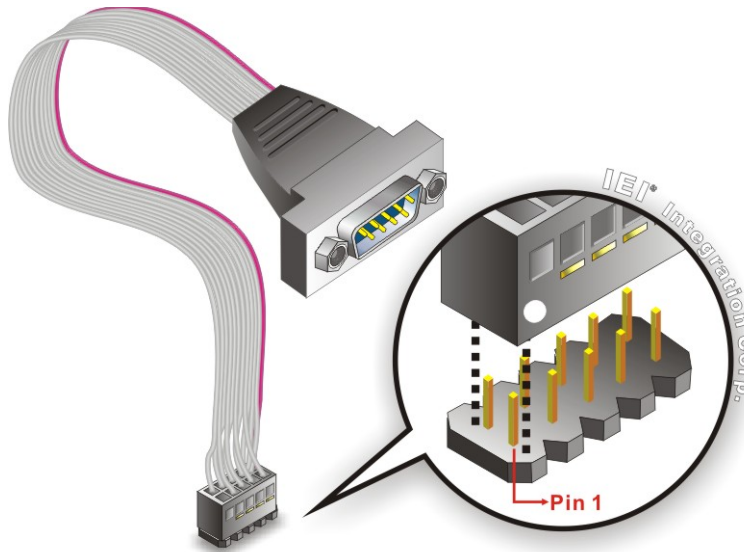

Figure 4-16: Single RS-232 Cable Installation
Step 2: Insert the cable connector. Align the cable connector with the onboard connector. Make sure pin 1 on the board and connector line up. Pin 1 on the cable connector is indicated with a white dot. See **Figure 4-16**.